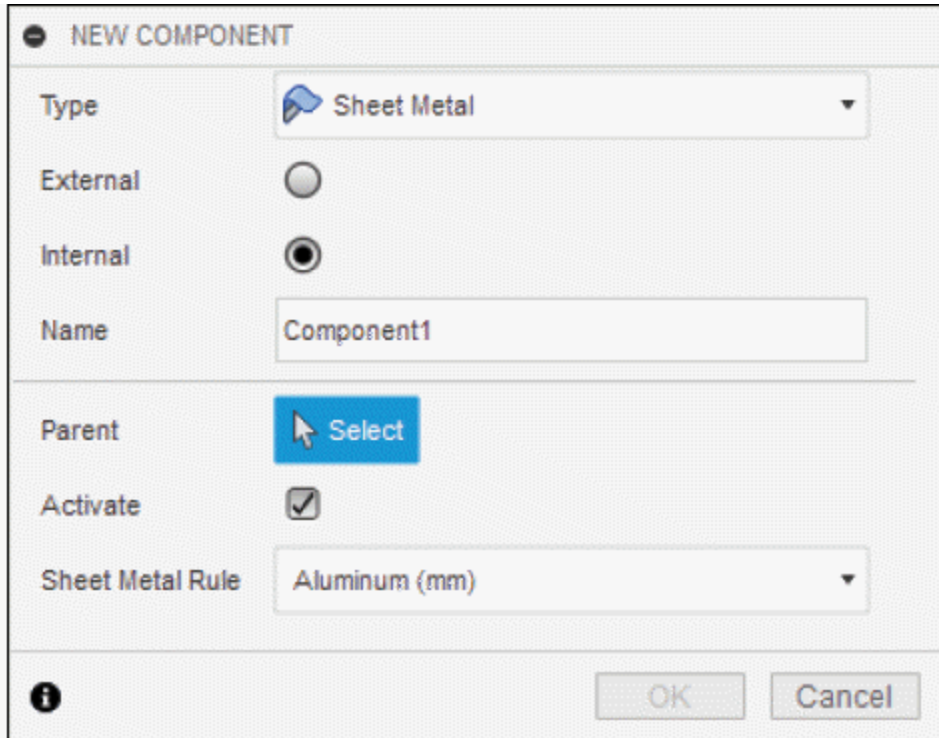

Figure-8. NEW COMPONENT dialog box with sheet metal options
- Select the **Sheet Metal** option from **Type** drop-down of **NEW COMPONENT** dialog box. The **NEW COMPONENT** dialog box with sheet metal options will be displayed; refer to Figure-8.